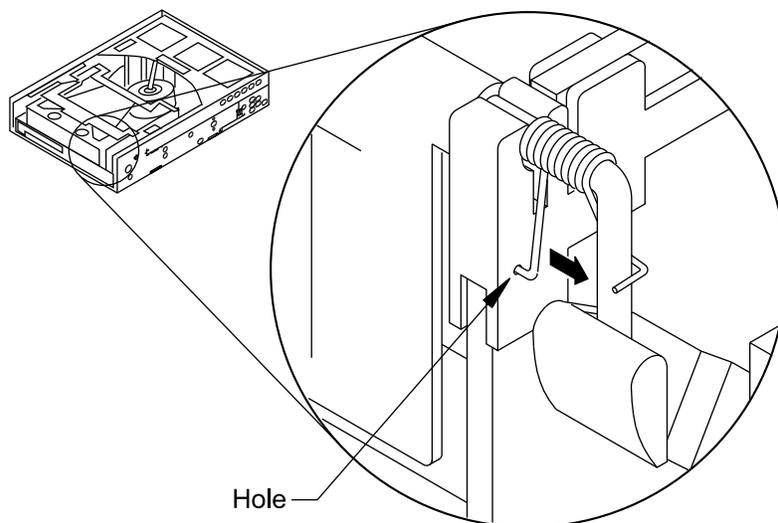

Figure 6 Removing the left end of the spring
2. Locate the spring on the right end of the hinge pin (see Figure 6). Using a pair of tweezers, remove the left end of the spring from the hole, as shown.